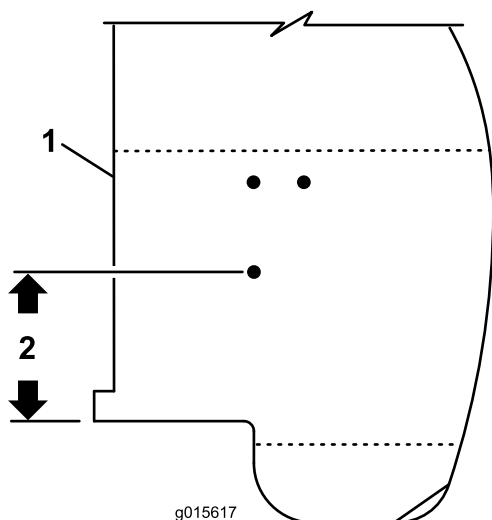

Figure 1
3. Locate the (3) holes in the right fender.
- If the rear hole is located 3.74 inches from the edge of the fender as shown in Figure 1, proceed to step 4.